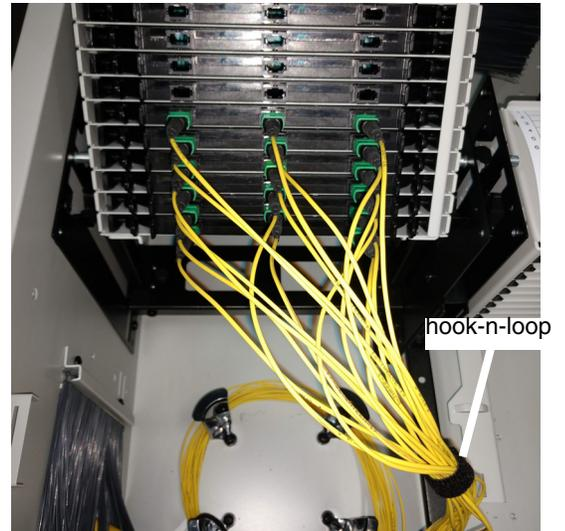

Figure 10
- b. Mate MPO connectors from fiber cable to rear of cassettes starting from the bottom. Bundle strands together with hook-n-loop. (See Figure 10).